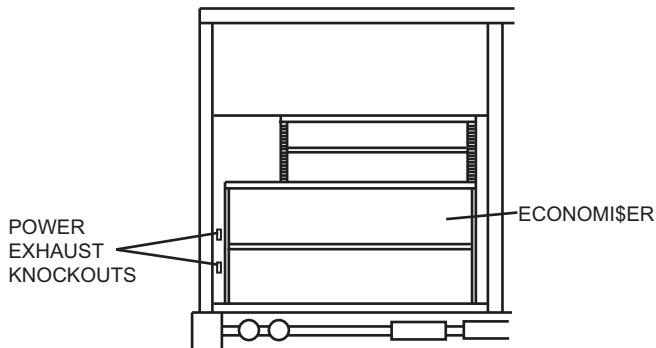

Fig. 2 — Power Exhaust Knockout Location
2. Remove the power exhaust knockout plugs located on the lower left side of the Economizer accessory. (See Fig. 2.)
2. Insert the 2-wire low voltage harness plug from the power exhaust into the top knockout on the economizer. (See Fig. 2.)
6. Insert the high voltage harness plug from the power exhaust into the bottom knockout on the Economizer. (See Fig. 2 and 4.)
2. Insert the 2-wire low voltage harness plug from the power exhaust into the top knockout on the EconoMi\$er2 accessory. (See Fig. 2 and 9.)
6. Insert the high voltage harness plug from the power exhaust into the bottom knockout on the EconoMi\$er2 accessory. (See Fig. 2 and 9.)